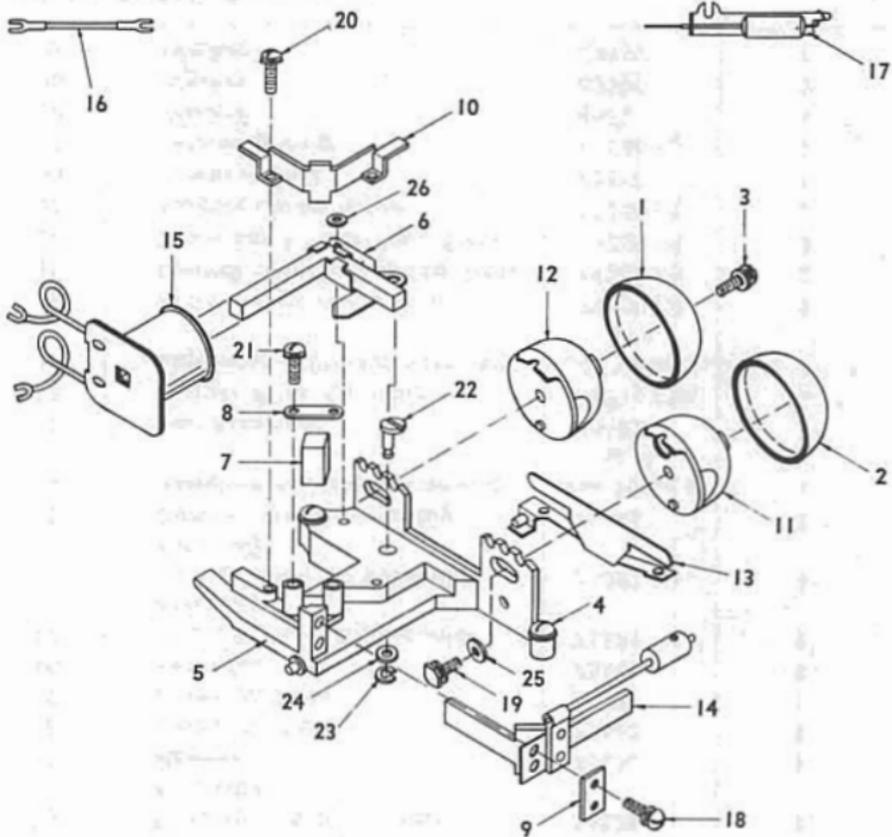

Figure 4
- b. Parts List—Table 3, page 61, less item 13, Damper Spring Assembly 75580.
- c. Exploded view—Fig. 4, page 62, less item 13.
(SEE FIGURE 4)